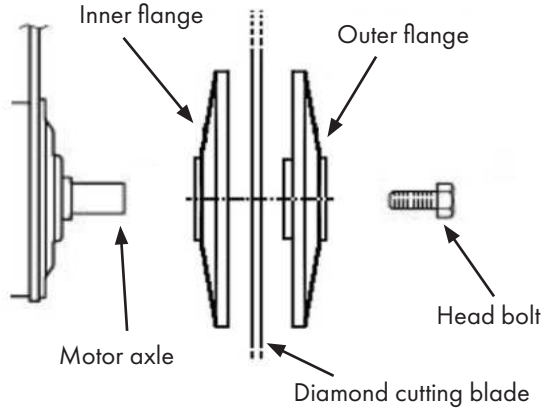

Figure 4
- Set the idling speed using the screw shown in Fig. 4.